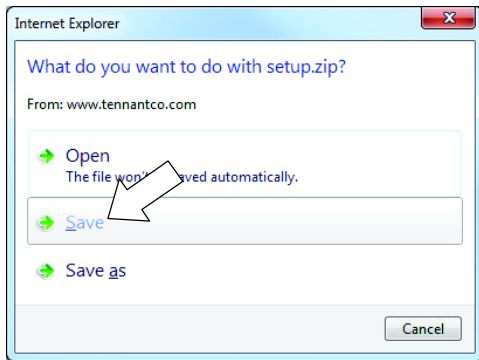

FIG. 8
5. Click the Save button.(Fig. 8)